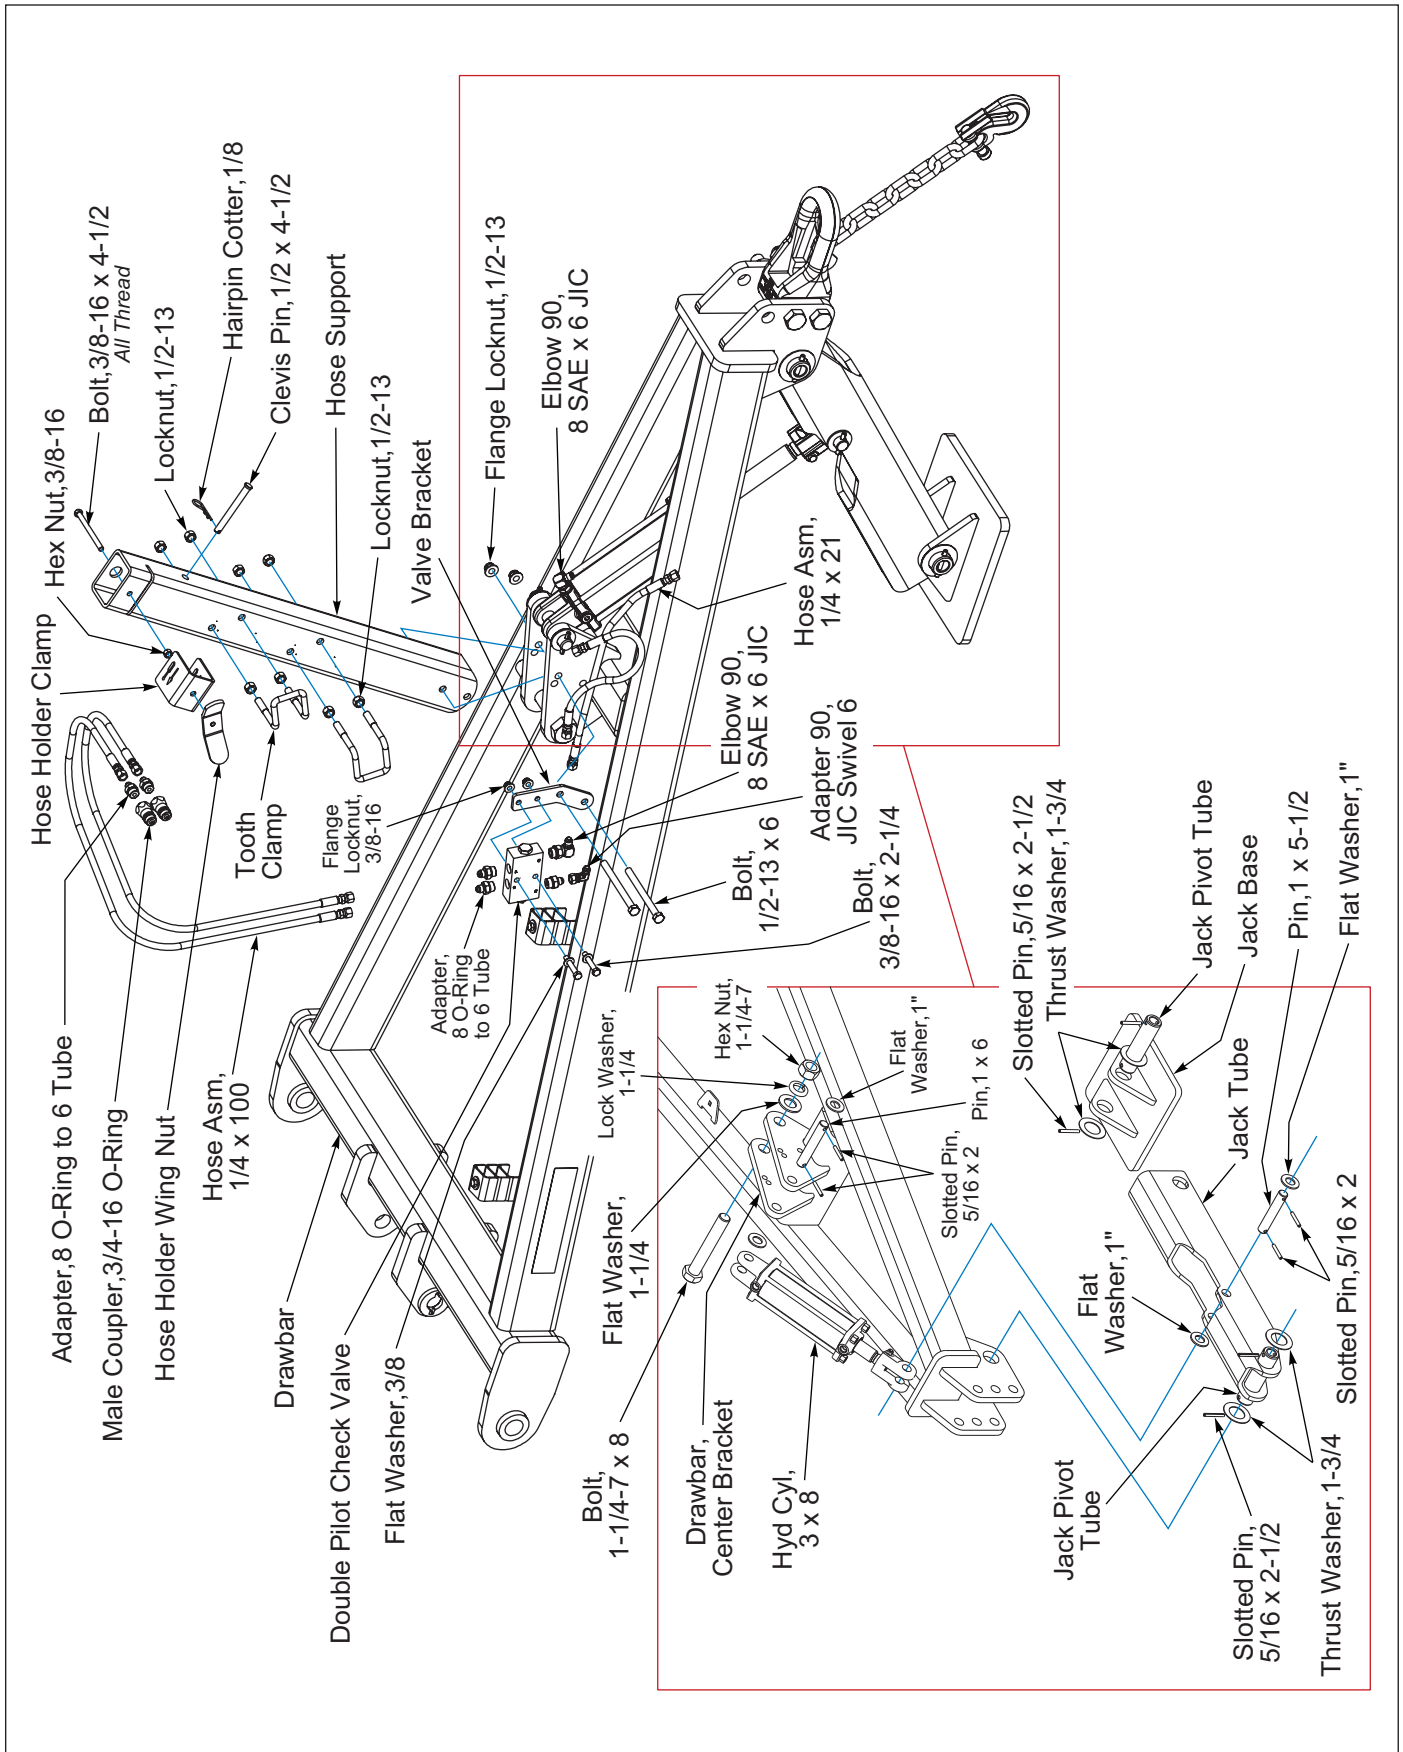

Figure 2-11: Drawbar w/ Hydraulic Jack Installation
1. Attach bottom of the Jack Tube to the Jack Base with Jack Pivot Tube. Place 1-3/4 Thrust Washers on each end of the Jack Pivot Tube and secure with 5/16 x 2-1/2 Slotted Pin. **See Figure 2-11.**